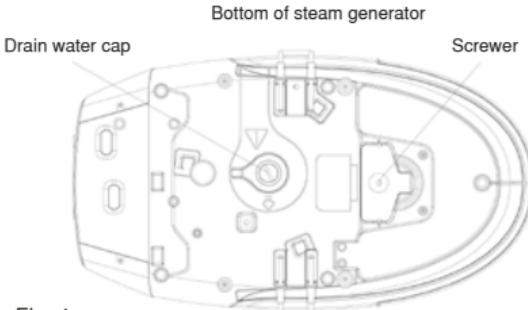

Fig. 4
Open the cap for cleaning the steam generator (see Fig. 4).
3. To remove the mineral deposits collecting at inner steam generator, firstly put the iron horizontally on a level surface, then tilt the steam generator and unscrew the drain water cap with the attached screwer, and then drain the steam generator, see Fig. 4.